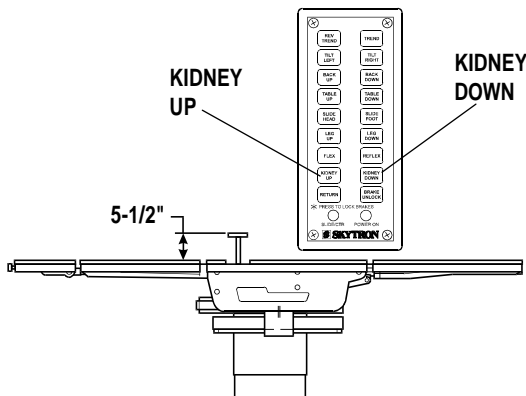

Figure 2-11. Kidney Lift Positioning
i. Kidney Lift. To raise the built-in kidney lift, press the KIDNEY-UP button (figure 2-11). Up to 5-1/2 inches of lift can be achieved. Press the KIDNEY -DOWN button to lower the kidney lift.